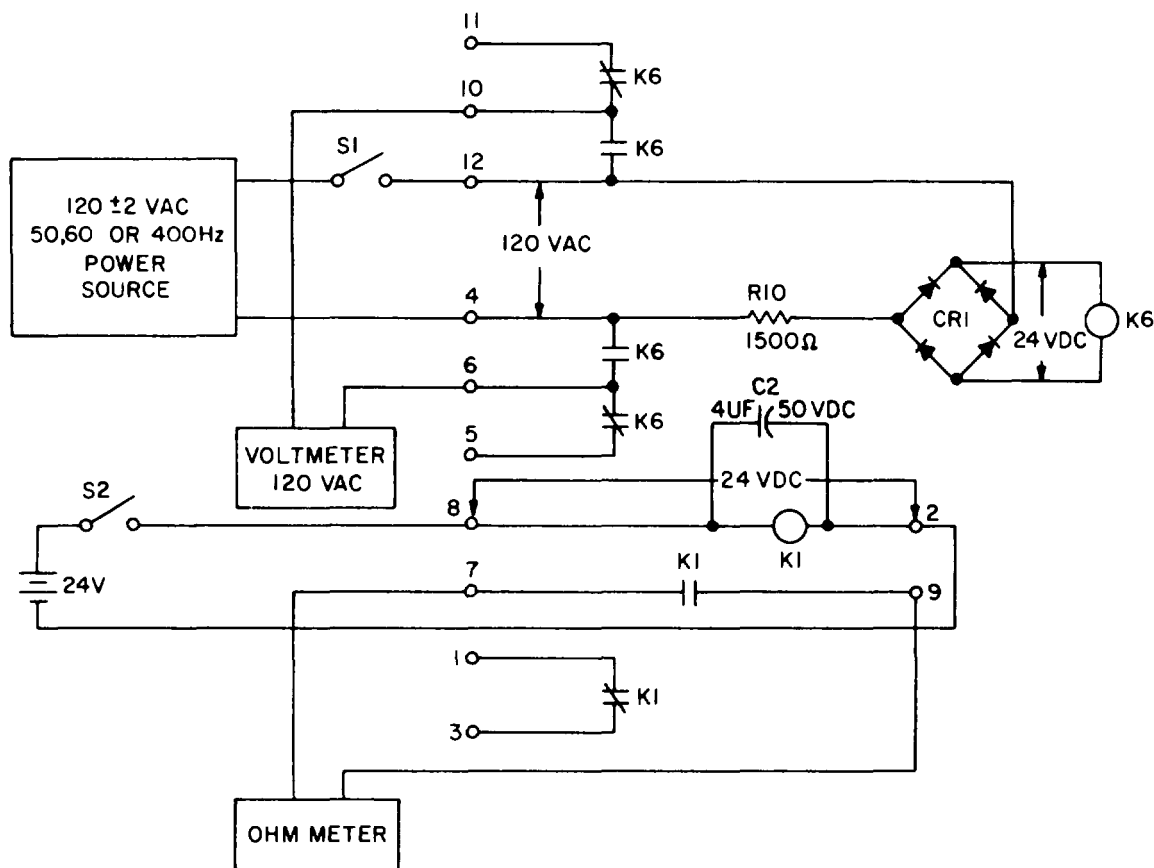

Figure 6-3. Control box relay assembly (A4) test setup
a. Connect the control box relay assembly to the test equipment as illustrated in figure 6-3.